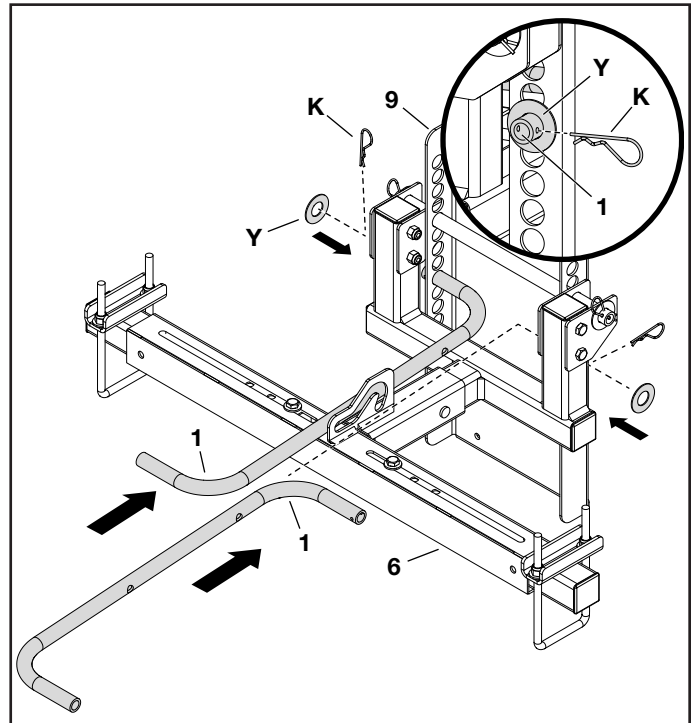

FIGURE 6
STEP 6: (SEE FIGURE 6)
- With a push tube (1) level to the hitch mount assembly (6), insert the uncapped end of the push tube into the bulkhead (9) hole at that height.
- Repeat with the second push tube (1).
- Secure each push tube (1) to the bulkhead (9) using a washer (Y) and hair cotter pin (K).